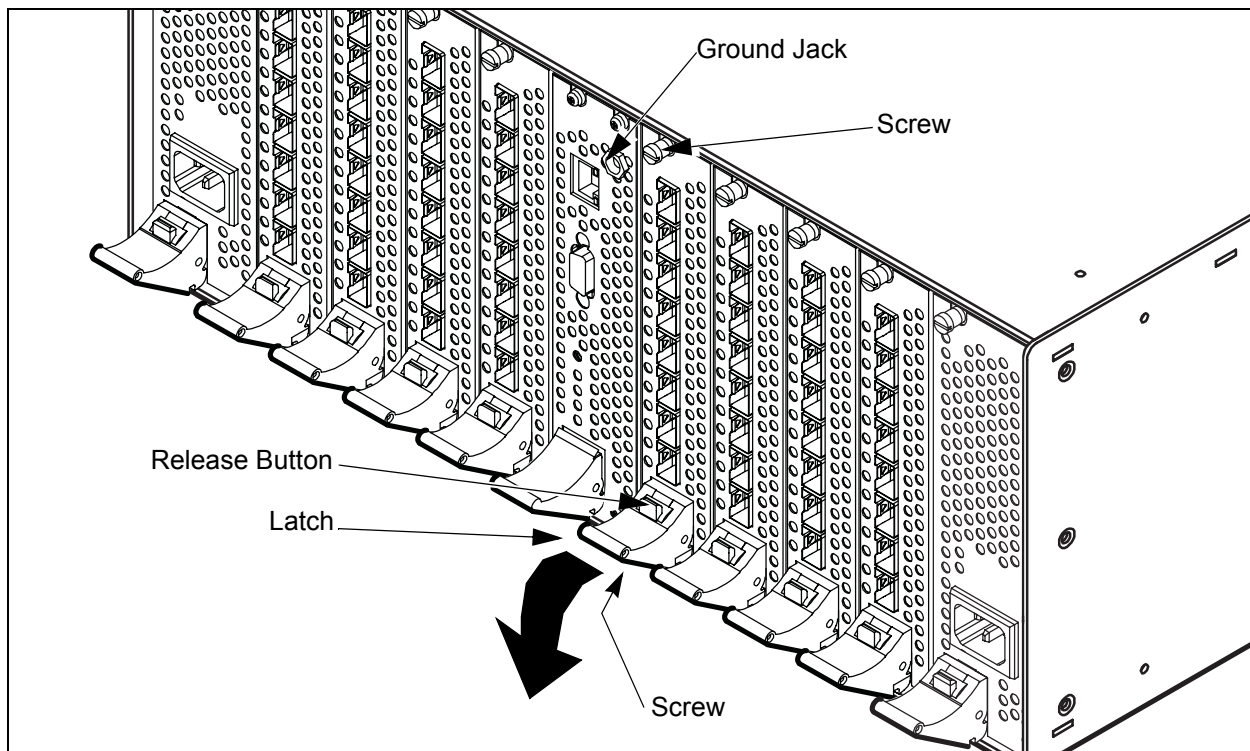

Figure 6-2. Removing an I/O Blade
2. Put on an ESD wrist strap, and connect it to the ground jack on the CPU module shown in Figure 6-2 or some other ground point on the chassis.
7. Using a flat-bladed screwdriver, loosen the captive screws at the top and bottom of the I/O blade faceplate as shown in Figure 6-2. The bottom screw is under the latch. Grasp the latch and press the red release button, then rotate the latch downward to disengage the I/O blade from the backplane connector. Carefully slide the I/O blade out of the slot. Enter “y” to confirm that the I/O blade has been removed.